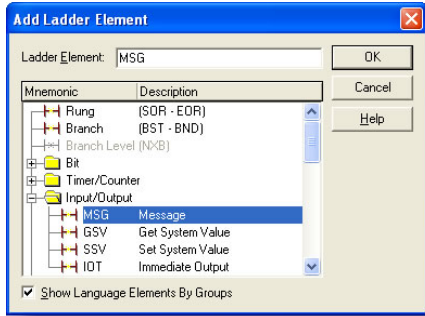

Figure 94: Adding a MSG Instruction
- d) Select the "MSG" instruction in the Input/Output folder. Refer to Figure 94.